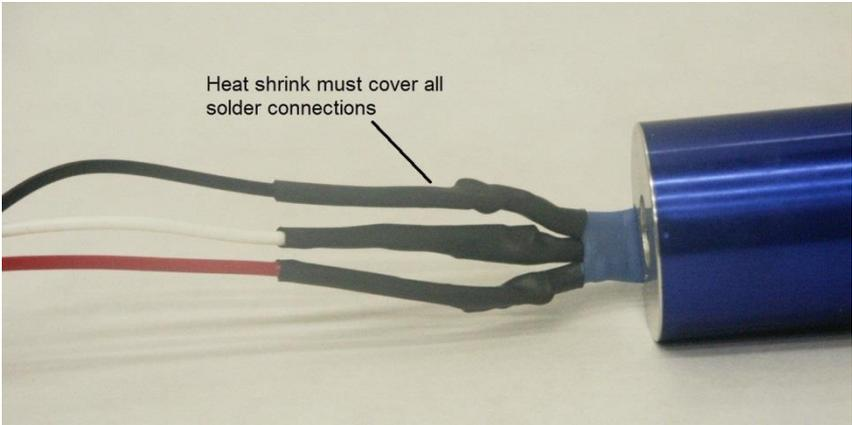

Figure 4-9: Heat Shrink Each Connection
- After all connections are soldered, slide over and apply the thinner heat shrinks to cover the three connections. (Figure 4-9)